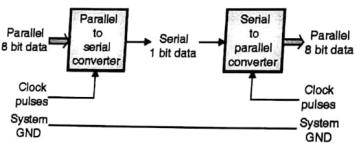

Fig. 7.1.1 : Serial I/O
- In serial data transfer the 8 bits of data is converted into serial 8 bits; using shift register (parallel in serial out mode). These serial bits are transferred on single line using serial I/O data transfer. To transfer 8 bits of data, it will require 8 clock pulses. On the other side exactly opposite process is done. These serial 8 bits are accepted and converted to parallel form to get 8 bits of data. This process is shown in Fig. 7.1.1.